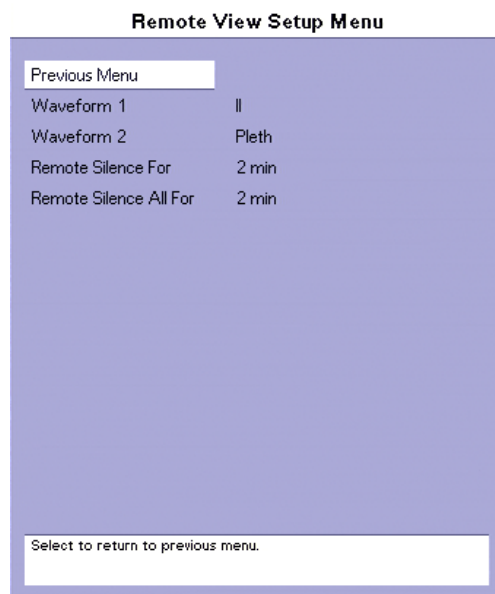

FIGURE 3-3 Remote View Setup Menu
3. **Setup** — this selection opens the **Remote View Setup Menu** shown in FIGURE 3-3. This menu enables the user to configure the display and functionality of the **Remote View Menu**.